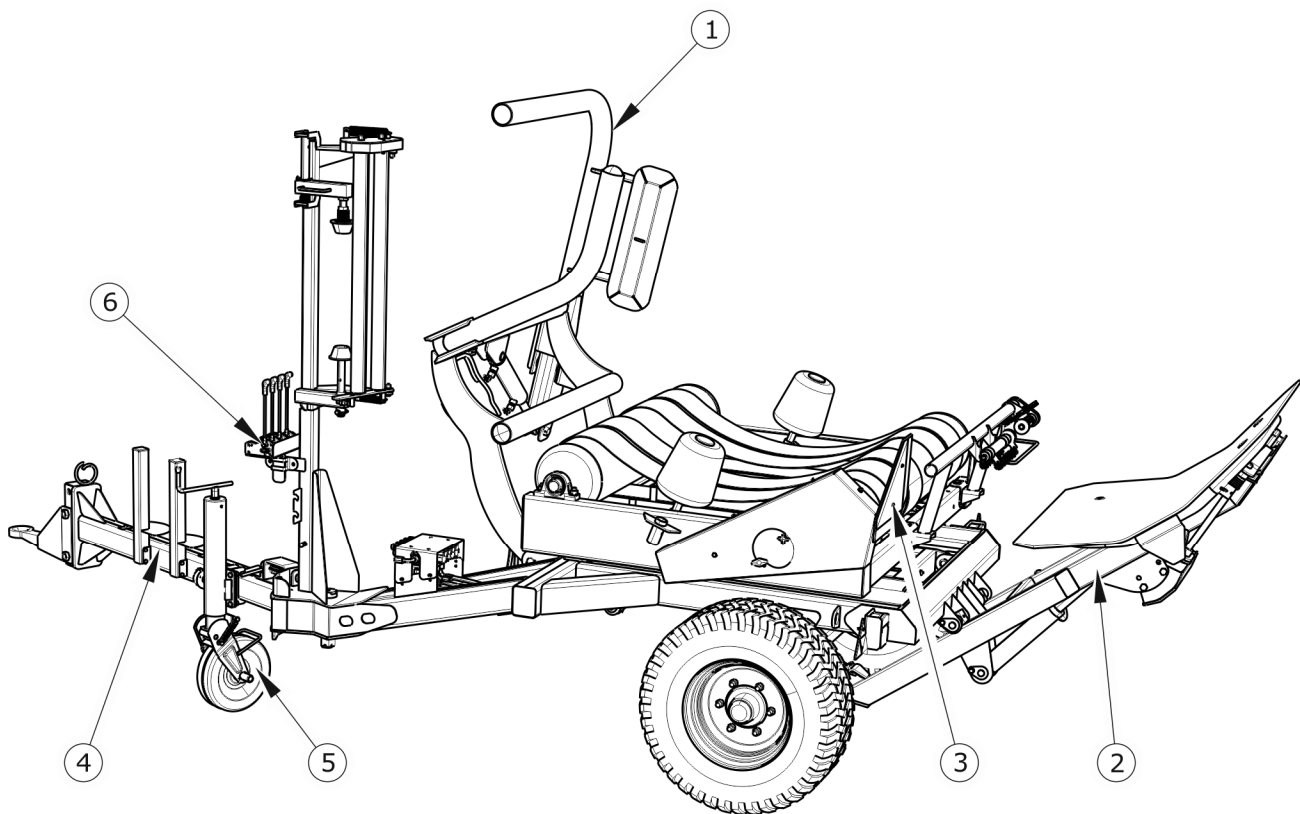

FIGURE 4.12 *To prepare the wrapper for road travel:*
- Raise the load arm (1). - Figure 4.12
- Lift the unloading frame (2).
- Fit a triangular plate distinguishing slow moving vehicles (3).
- Fold the drawbar (4) into the DRIVE position.
- Make sure that the parking stand (5) is fully raised.
- Move the support with the control levers (6) into the holder mounted on the wrapper mast.